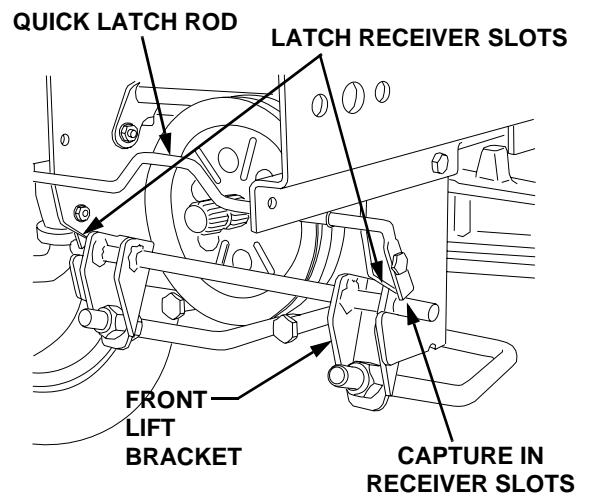

Figure 12
- From the front of the tractor, slide the outer pins of the front lift bracket into the latch receiver slots of the tractor. Press the lift bracket rearward until both sides are firmly captured in the latch receivers by the quick latch rod (See Figure 12).
- From the front of the tractor, pull the center of the quick latch rod downward to release the front lift bracket/rod assembly. Slide the front lift bracket assembly from the latch receiver slots of the tractor (See Figure 12).